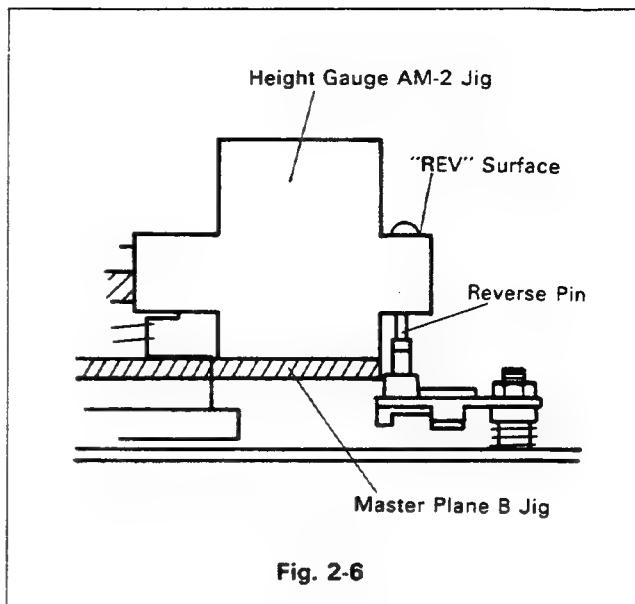

Fig. 2-6
(3) To adjust the height of the reverse pin, place the Master Plane B-2 Jig (J-13) on the chassis, and place the Height Gauge AM-2 Jig (J-12) on J-13 with the side marked "REV" facing up as shown in Fig. 2-6. Then rotate the nylon nut to adjust to the height of the lower surface of the upper flange.